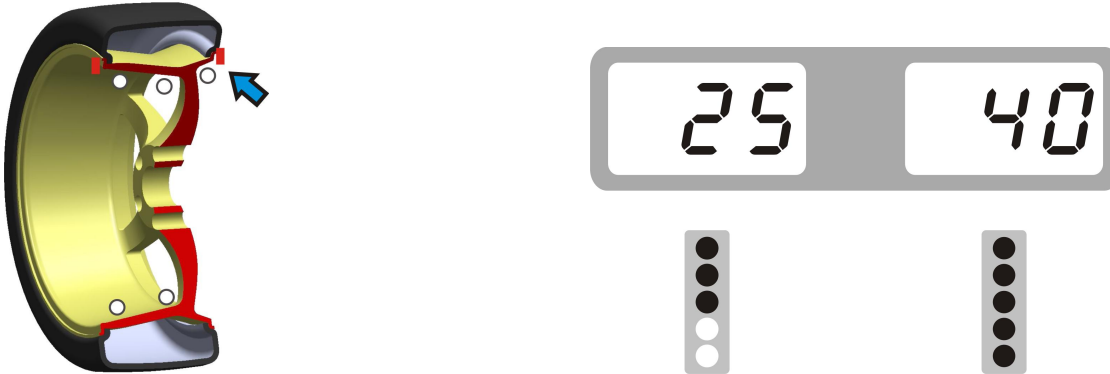

Fig. 3
4.1.6. Anticlockwise moving wheel slowly, the displays with right LED's lit up full indicate the correct angular position where to mount the counterweights (12 o'clock position) outside, as **Fig.3**, clip the counterweight.